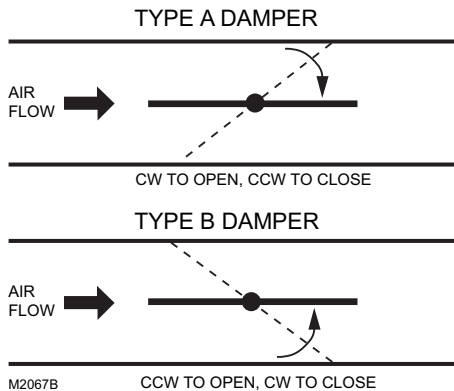

Fig. 3. Determining the rotation direction (CW or CCW) for damper opening.
Determine the damper rotation and opening angle prior to installation. See Fig. 2 below and Fig. 3 on page 3 for examples.
3. Determine the direction the damper shaft rotates to open the damper (CW or CCW) (see Fig. 3). Typically, there is an etched line on the end of the damper shaft that indicates the position of the damper. In Fig. 2, the indicator shows the damper open in a CW direction.